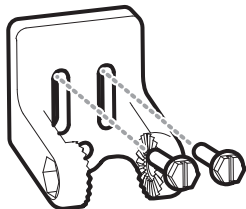

Figure 20
- Align the mounting bracket transducer assembly with the drilled holes in the transom. With a 5/16" socket driver, mount the assembly to the transom using the two #10 - 1" long screws provided (Figure 20).